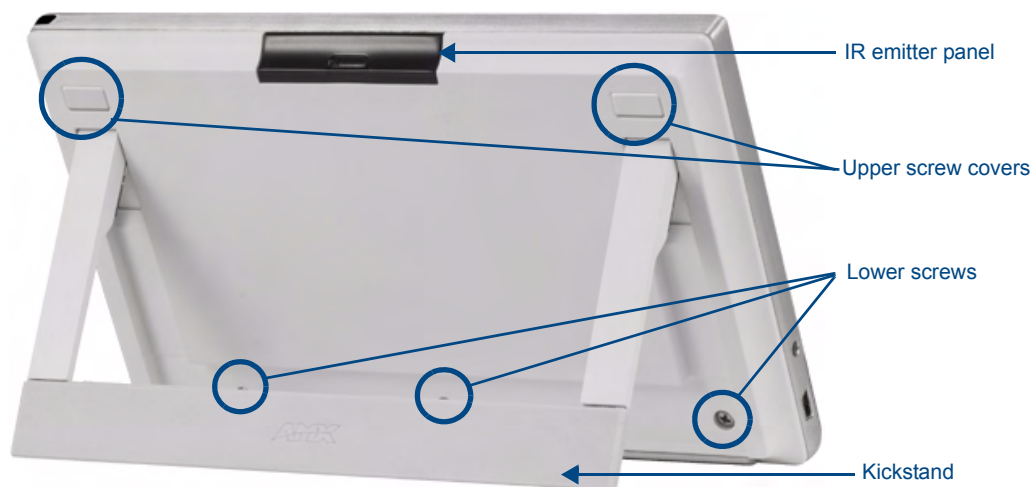

FIG. 90 Screw placement at the back of the MVP-5200i- GW
2. Place the device face-down and remove the five screws from the back of the device (FIG. 90).